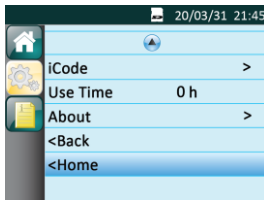

Fig. 13-10
(2) Returning to the Main Interface Move the cursor to the **Home** option by turning **the Knob** , as shown in Fig. 13-10.